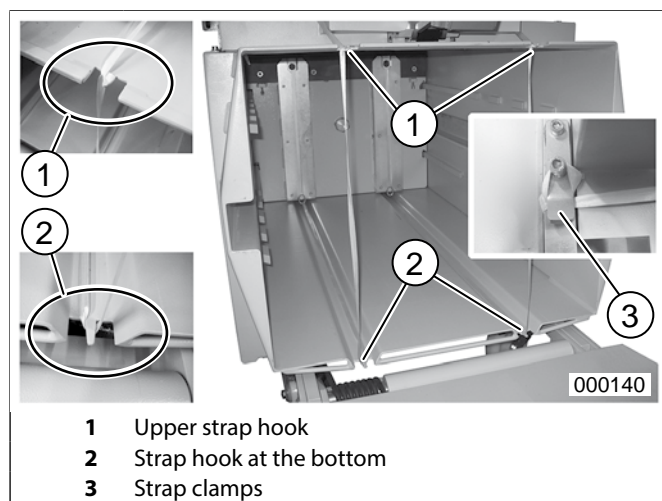

fig. 20 Inserting straps for a new bale
5. Loosen the strap ends (fig. 20/3) which have been secured to the baler housing, knot them together with the respective straps pulled out in the preceding step (fig. 16) and cut the strap behind the knot with a pair of scissors.
3. Pull the straps out a distance equivalent to about one flap length, guide the strap ends from the inside over the strap hook (fig. 20/1+2), through the inlet opening and up to the strap clamps (fig. 20/3). Secure the strap ends here by wrapping them twice around the clamps.